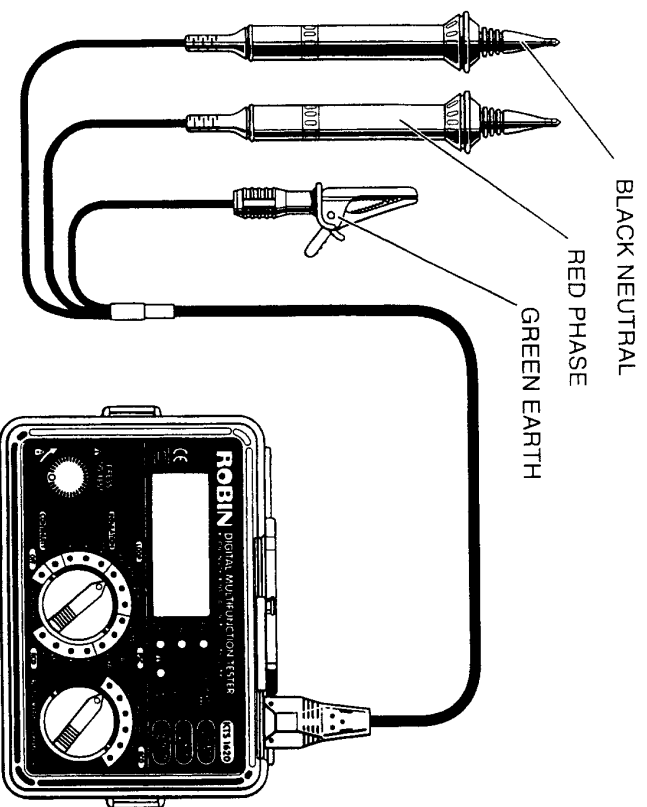

Fig 10
6. If testing lighting or other circuits, connect the three-wire lead SL 16E to the KTS 1620, connect the red (phase) lead to the phase connection of the circuit under test, connect the black (neutral) lead to the neutral connection of the circuit under test, and connect the earth lead to the earth associated with the circuit. (see Fig 10).